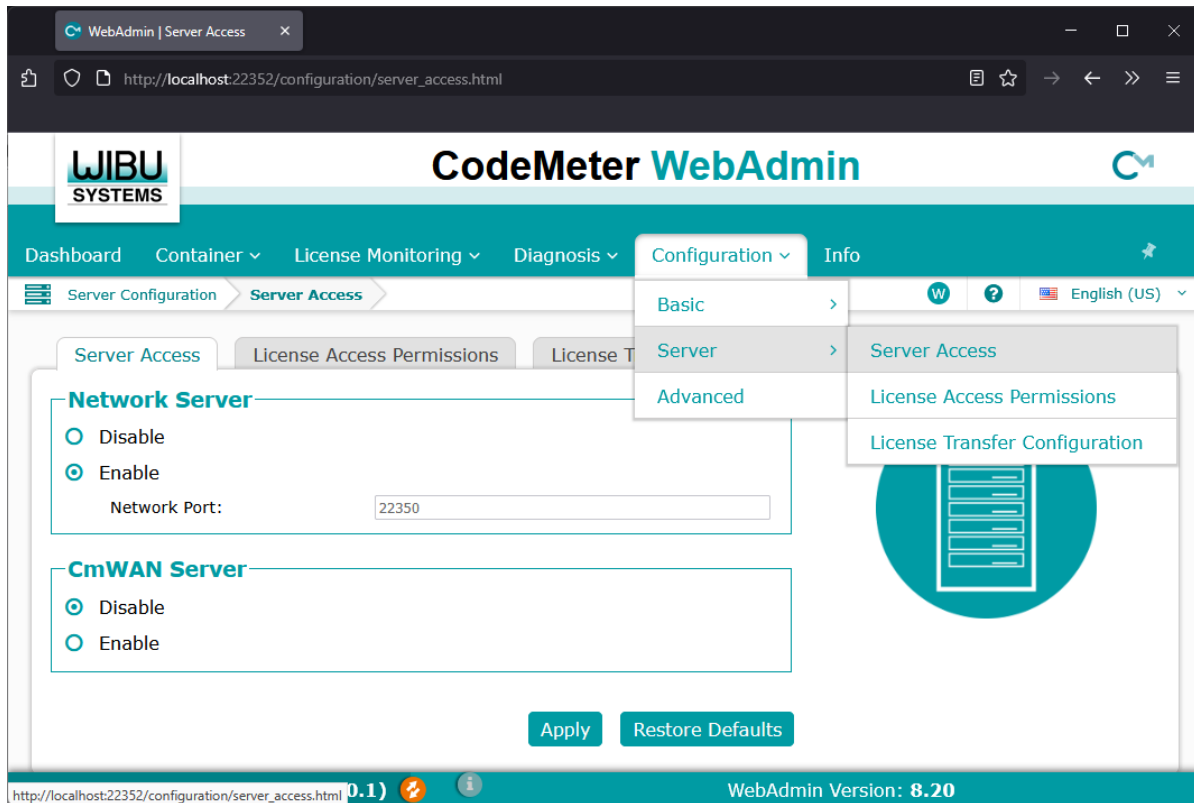

Fig. 1.4.2: CodeMeter® WebAdmin.
- Select the item *Configuration* from the upper menu, now the item *Server* → *Server access* from the sub-menu, set the item NETWORK SERVER to enable and click to the button **Apply** to activate it [Fig. 1.4.2]. Exit the browser and start the “CodeMeter control center” again.